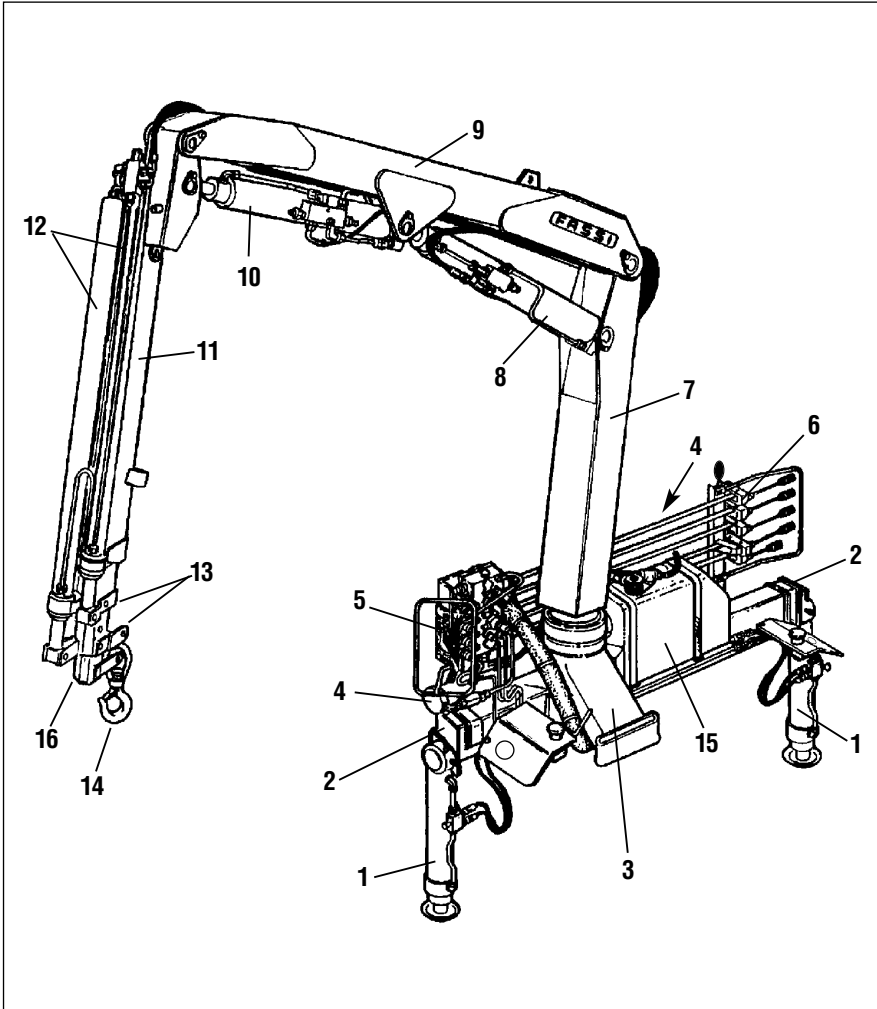

fig. 4
9.1 Version with ground controls for crane and outriggers (fig. 4).